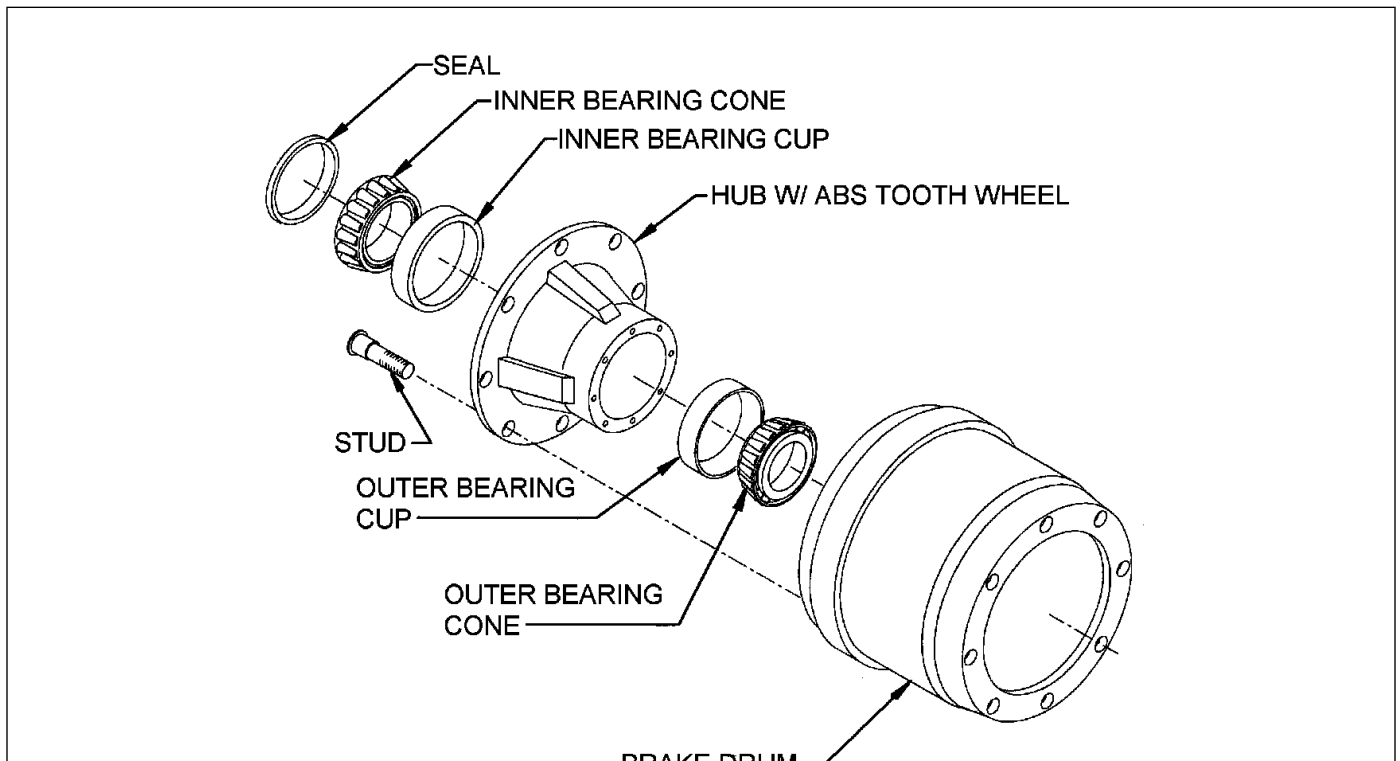

Figure 4-13: Outboard Mount Hub and Drum
7. Replace the hub and drum as follows (**See Figure 4-13.**):
- a. Remove the brake drum (**See Figure 4-13.**) It may be necessary to release the slack adjuster.